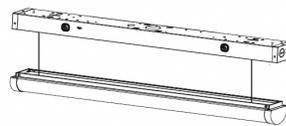

Fig. 2
2. Open the fixture by pressing both buttons located on opposite ends (Fig. 2).